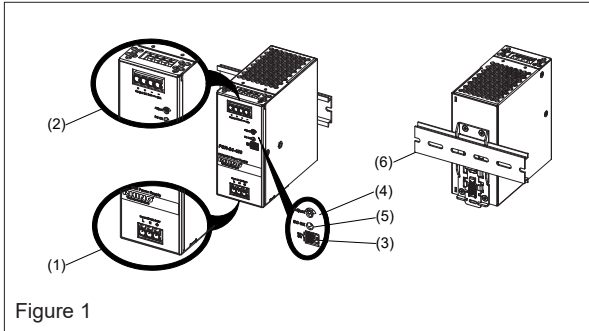

Figure 1
## 2. Device description (Fig. 1)
### 4.1. Input connection (Fig. 1, Fig. 6)
Use L, N and PE connections of input terminal connector (see Fig. 1 (1)) to establish the 100-240Vac connection. The device has an internal fuse. The unit is tested and approved with branch circuit protective device up to 20A.
### 4.2. Output Connection (Fig. 1 (2))
Use the "+" and "-" screw connections to establish the 24 VDC connection. The output provides 24 VDC. The output voltage can be adjusted from 24 to 28 VDC on the potentiometer. The green LED DC OK displays correct function of the output (Fig. 1 (5)). The device has a short circuit and overload protection and an over voltage protection limited to < 34 VDC.